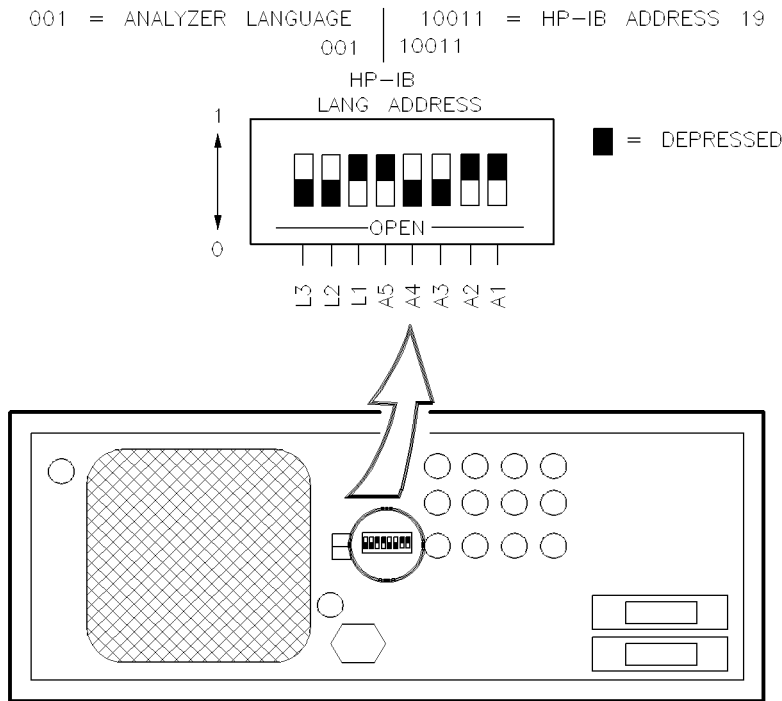

Figure 6-1. HP 8360 Series Source Rear Panel Switches
1. Set the rear panel switches on the source as shown in Figure 6-1.